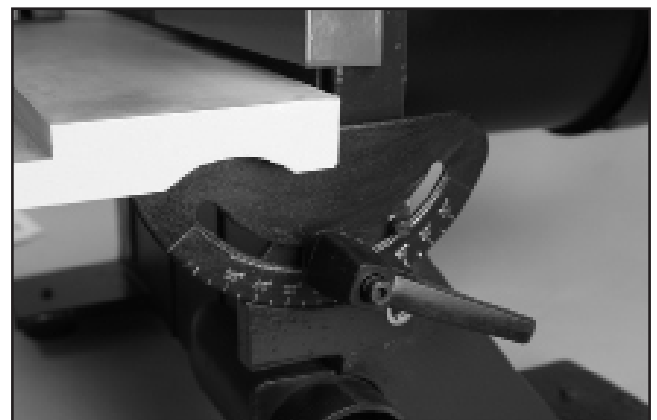

Fig. 7
1. Loosen the two bevel locking handles and slide the table into the 0° position (Fig. 7, indicated on the bevel scale). Tighten the two locking handles.